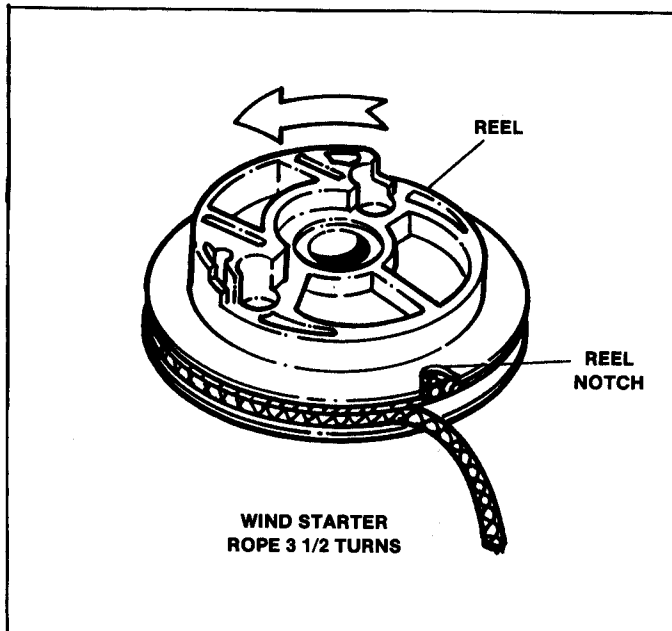

FIGURE 5.6
D. Wind starter rope on reel in direction of arrow shown in Figure 5.6. After 3½ rounds, bring the rope out at the reel notch.